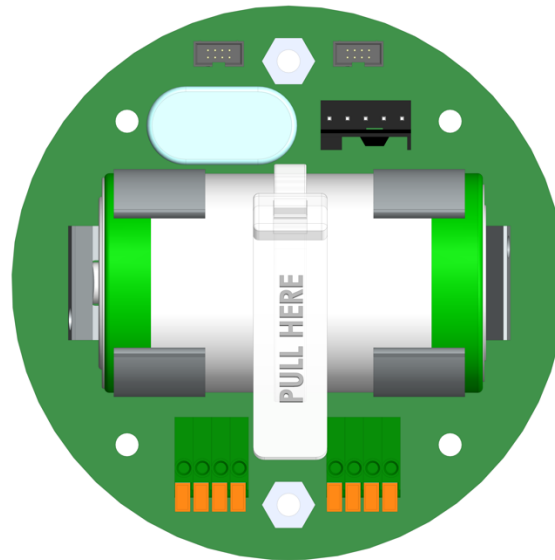
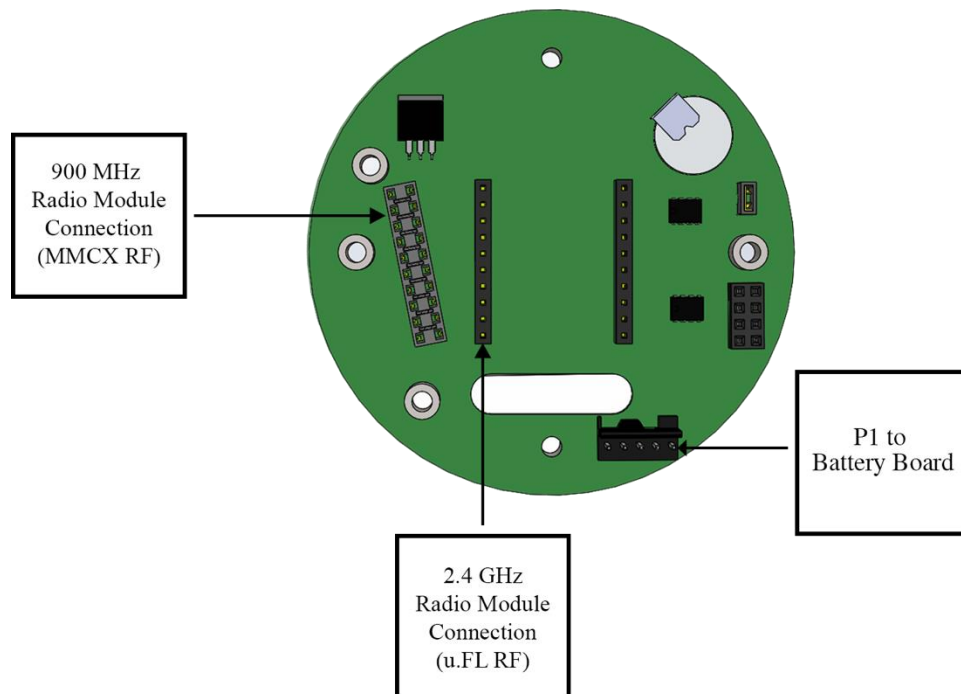

Figure 3-2 Battery Board
Figure 3-3 Display / Radio Board
- The Single Channel Eunit (**Engineering Unit**) and **One-Hour Trend** screens on the left side of Figure 3-2 are available even if the TXP-WTA Sensor Transmitter is equipped with Dual Sensors they each have individual screens.
- Lower Battery Board (Figure 3-2) is connected by a cable to the upper Display / Radio Board (Figure 3-3).
TracXP systems support both 900 MHz and 2.4 GHz FHSS networks determined by the radio module mounted to the Display / Radio Board. The 900 MHz radio module mounts to the back of the Display transmitter as shown in Figure 3-3. The is a MMCX (Micro-Miniature Coaxial) RF connector on the pigtail cable from the antenna fitting that plugs into the radio connector on 900MHz models
The 2.4 GHz radio module also mounts to the back of the Display transmitter as shown in Figure 3-3. Its u.FL RF connector attaches to the coax pigtail of the antenna fitting required for 2.4 GHz models.